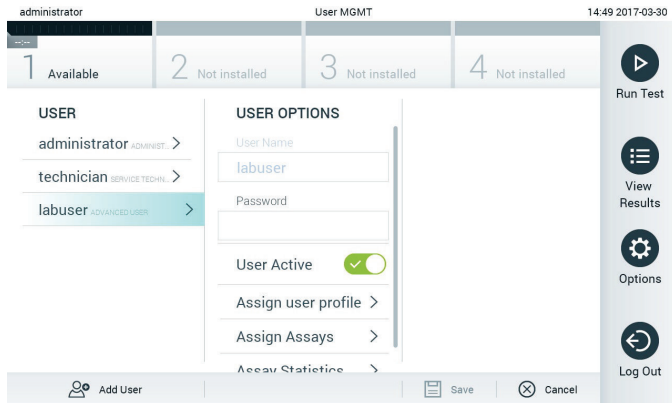

Figure 48. Selecting and managing users.
2. Select the user to manage from the list in the left column of the content area (Figure 48, next page).